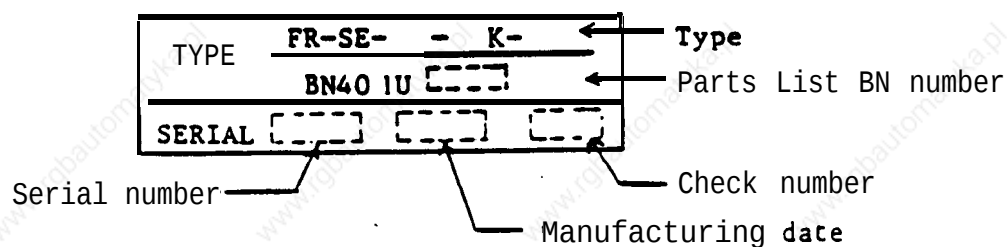

Figure 15
(1) Please make sure that all power sources are turned off before changing EPROM. Because **CB1** in the spindle drive does not remove power from the circuit boards it is necessary to turn off the machine main breaker.
(2) Note the position of the name plate and the locations of the EPROM's in Figure 15. The SE-CPU card is located just behind the front panel. Two EPROM's (**ROM1 & ROM2**) are located on the upper left side of the CPU card.
(3) Remove the EPROM very carefully with a ROM puller. Be sure not to bend the pins on the EPROM. The EPROM can be removed by prying very carefully on the corners between the EPROM and the socket with a small flat **screw driver**. Do not pry against or damage the printed circuit board.
(4) Confirm the version on the **EPROM** label and note number for proper socket location. Example: A1 in ROM1 socket.
(5) Locate notch or dot on EPROM and align that end of the EPROM with the notch on the printed circuit board outline. Refer to Figure 15 for detail. Carefully start all pins of the EPROM in the socket. Then apply firm pressure to seat the EPROM in the socket. Support the printed circuit board so that excessive bending does not occur. In the case of a new EPROM it may be necessary to bend all of the pins at right angles to the EPROM case before attempting insertion.
(6) Make sure all of the pins on the EPROM are properly inserted in the socket. Inspect for tilting of the EPROM and pins bent under the EPROM or bent out. Refer to Figure 15 for detail.
(7) Please record the machine serial number, the new EPROM version from the label, and the information from the spindle drive nameplate. Please return this information and the old EPROM's to Mitsubishi.
(8) Refer to Figure 15 for location and details of the nameplate.